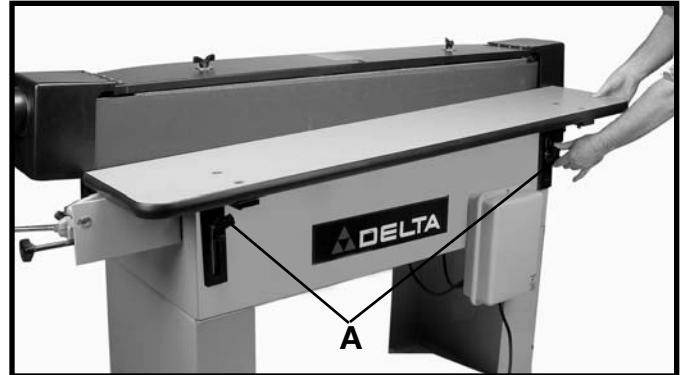

Fig. 26
To raise or lower the straight table, loosen lock knobs (A) Fig. 26, adjust table height and tighten knobs (A). **NOTE:** When straight sanding, it is advisable to raise one end of the table so it is higher than the other, as shown. This allows for cooler belt running and less material burning. It also prolongs belt life, provides efficient sanding and will prevent spot wear on the belt surface. **CAUTION: MAKE CERTAIN THE SANDING BELT IS NOT IN CONTACT WITH THE TABLE BEFORE STARTING THE MACHINE.**